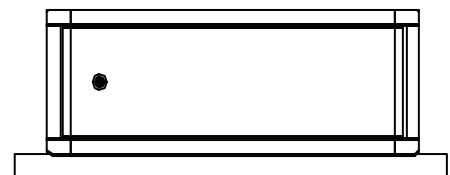

Figure 11
(2) Rotate the instrument by 180° in the same plane, see figure 11, wait 10 seconds till the displayed data stable then record the second angle value.